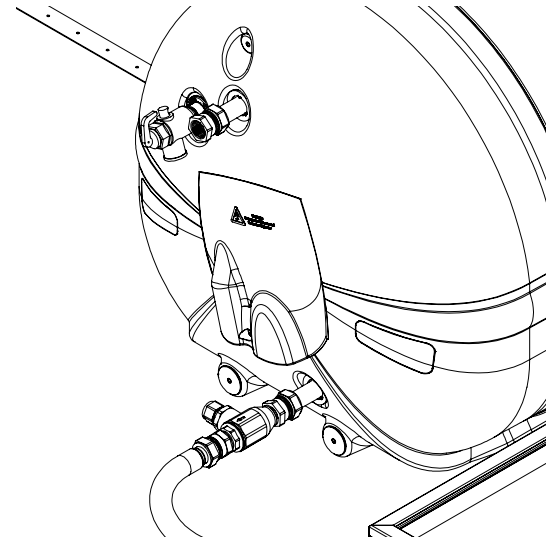

Figure 15. Connection end (open circuit)
26. Slide an Rp^{3/4}" compression union onto the hot outlet of the tank. Tighten the assembly. Insert the PTR valve supplied with the Parts Kit into the valve port in the tank (*Figure 15*).
- **Open Circuit System** – see *Figure 15*
2. Fill the closed circuit with water: connect a hose from the PTR valve drain line on the tank to the fill port on the bottom left of the collector array (see *Figure 15, page 11*). Open the fill port using the square key. Lift the test arm on the valve to fill the closed circuit.